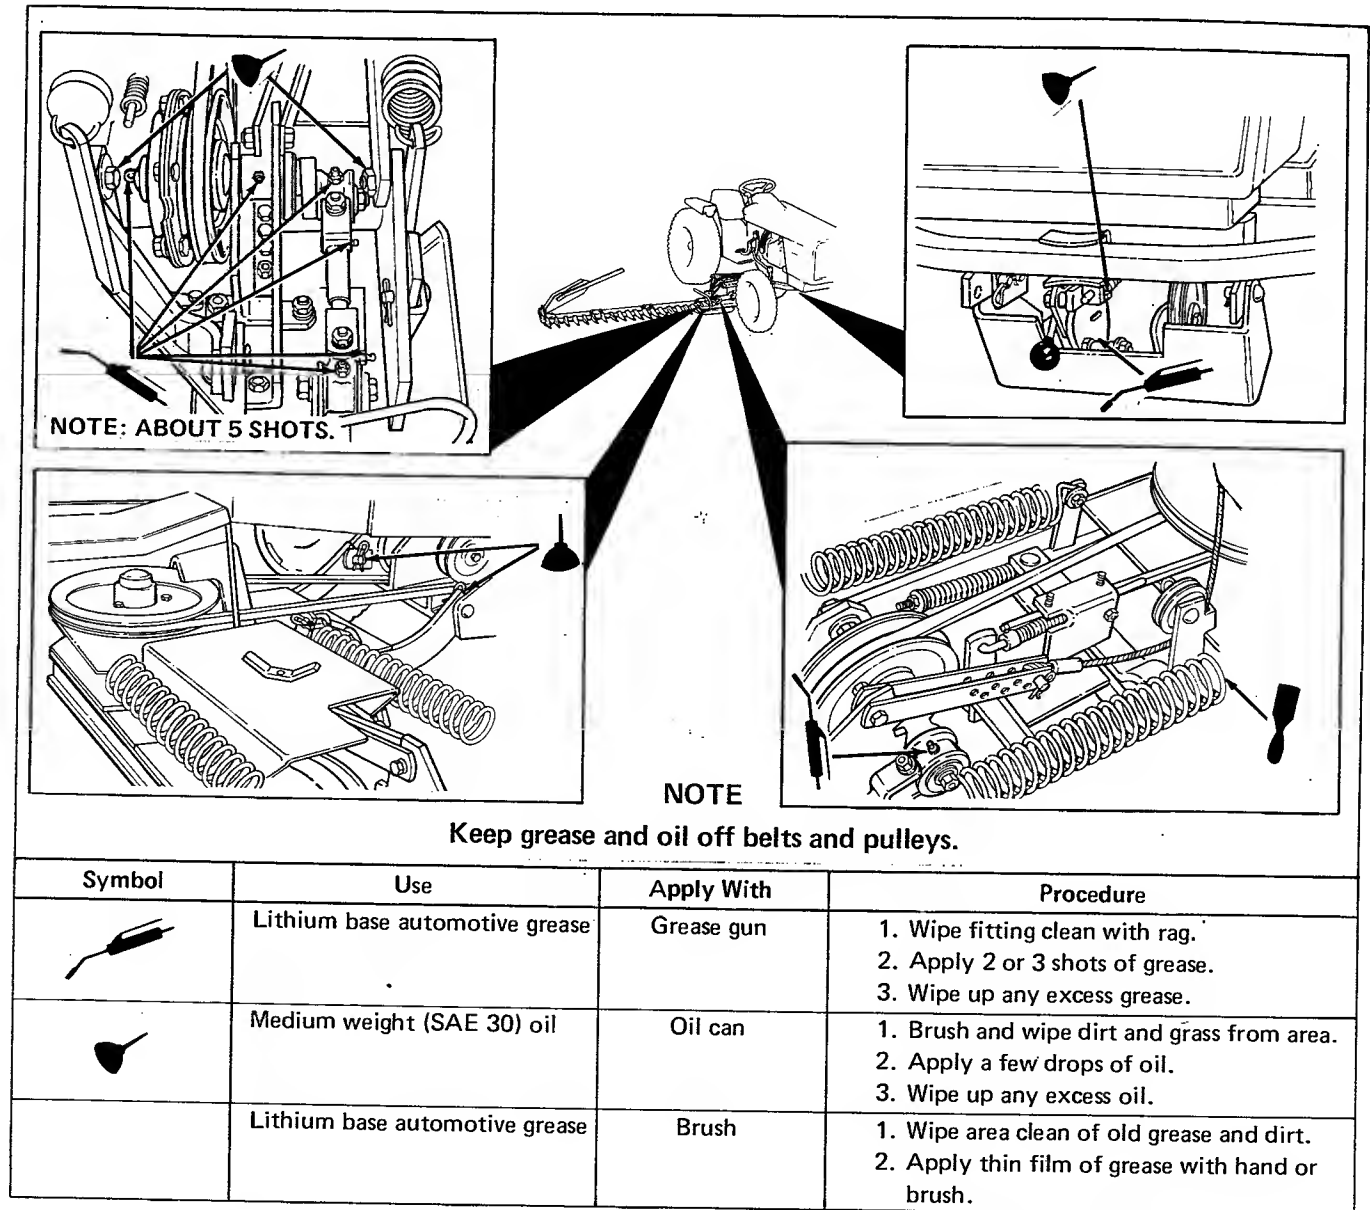

Figure 21. Lubricate Grease Fittings and (5-Hour Care) Breakaway Latch
4. Lubricate the sickle bar mower. See figure 21.